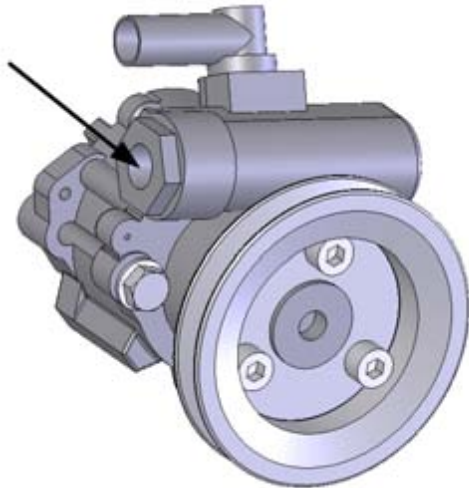

Figure 79. Hydraulic pump pressure relief valve
2. Open the adapter nut (figure 79)